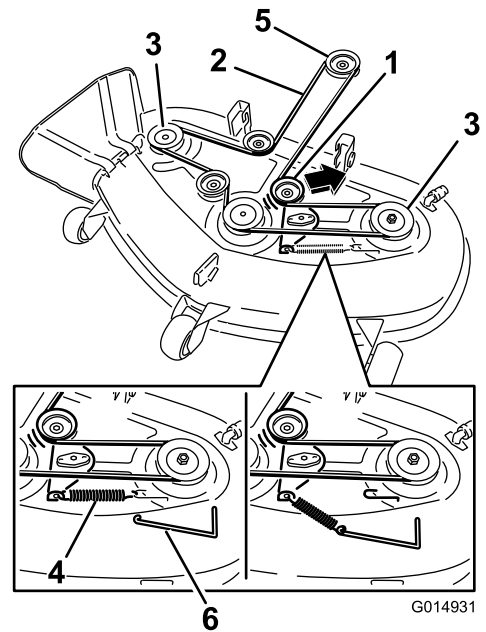

Figure 64
6. Route the new belt around the engine pulley and mower pulleys (Figure 64).
7. Using a spring-removal tool, install the idler spring over the deck hook, and place tension on the idler pulley and mower belt (Figure 64).